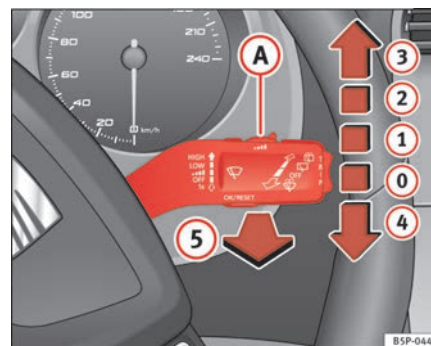

Fig. 81 Windscreen wiper and windscreen wash lever
The windscreen wiper lever ⇒ fig. 81 has the following positions: ►
- The next speed down will automatically be selected if wiper speed **2** ⇒ page 119, fig. 81 or **3** is selected when the vehicle stops. The set speed will be resumed when the vehicle starts again